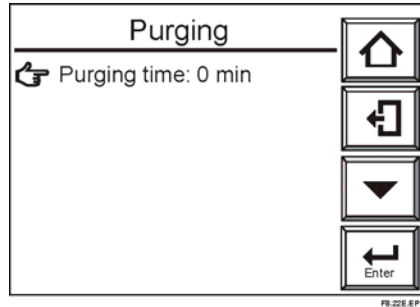

Figure 8-23 Purging Display
4. Select Purging. The purging time setting display screen appears, as shown in Figure 8-23